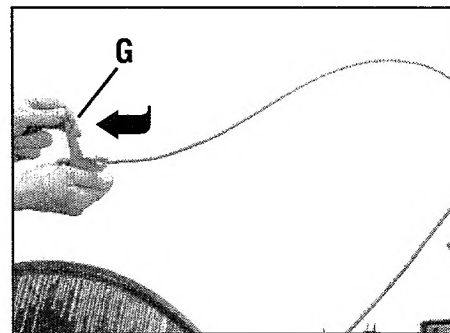

Figure 2-5: Put Wheel Gear Lever in DISENGAGE position.
6. To remove the tiller from its shipping platform, first carefully unwrap the Wheel Gear Lever and cable assembly (G, Figure 2-5) from around the engine. Next, move the lever to the DISENGAGE position (this allows the wheels to rotate).